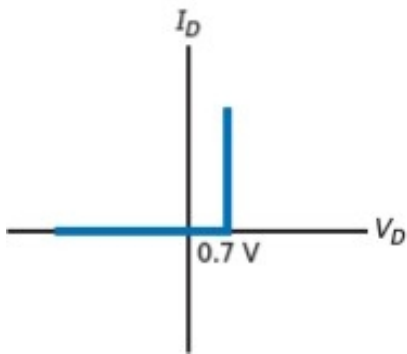

Figure- 21 Diode curve for second approximation
- Figure-21 shows the graph of current versus voltage for the second approximation. The graph says that no current exists until 0.7 V appears across the diode. At this point, the diode turns on. Thereafter, only 0.7 V can appear across the diode, no matter what the current.